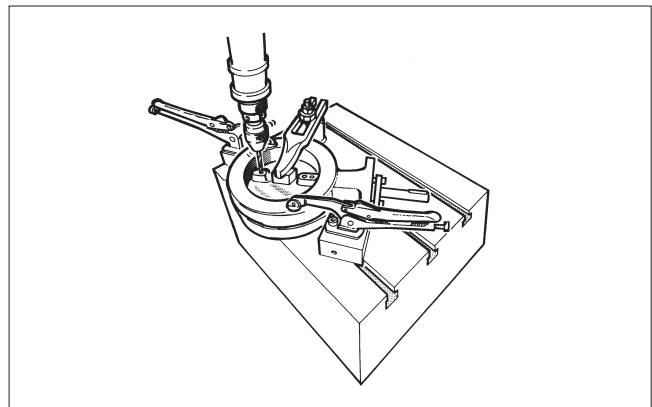

Fig. 14 Drilling the pins
- Remove the clamp ring (2) and seat ring (4) according to section 5.
- Set the valve horizontally on a sturdy surface so that the flat side of the disc lays against the surface (see Fig. 14).